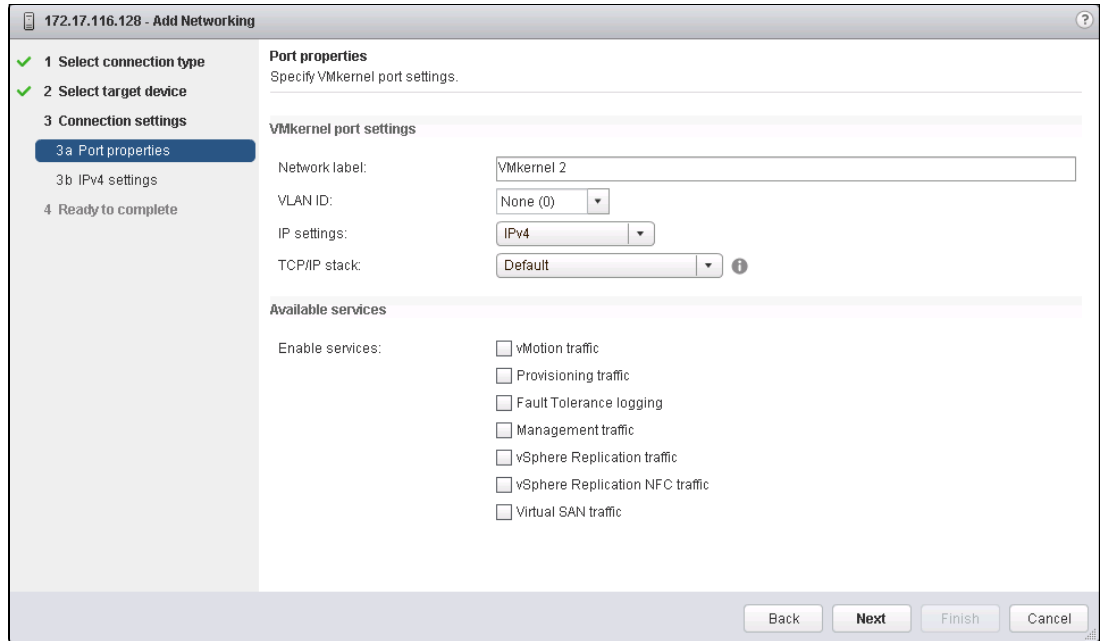

Figure 5-22 Select an iSCSI interface
4. Select one or more network interfaces that you want to use for iSCSI traffic and click **Next** (see Figure 5-22).